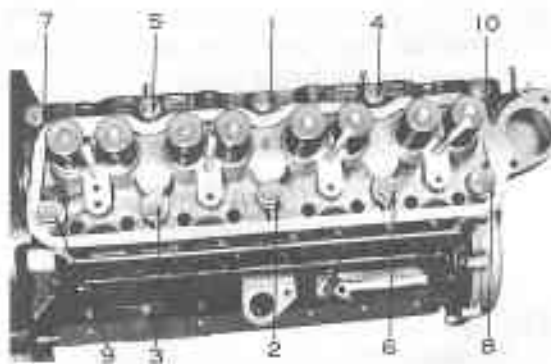

Fig. 3-69 Tightening Order
21. Turn the engine, and position the top side up. Install the cylinder head with the gasket, and tighten the cylinder head bolts following the order of the numbers as shown in figure 3-69, in three progressive steps, and secure the bolts to 10.3 to 11.7 m-kg (74.5 ~ 84.6 ft-lb) torque finally.